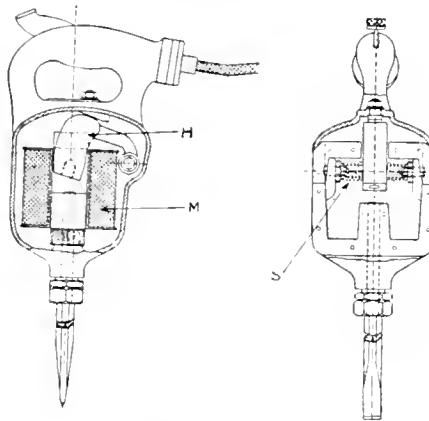

FIG. 1. ELECTROMAGNETIC HAMMER.
Electric drive has increased rapidly on all kinds of machine tools and is working into many new fields. One of the latest applications is in connection with small riveting hammers which are generally operated by compressed air. It is perfectly feasible to get the hammer blow by means of the electromagnet, but the difficulty has been to prevent sparking when the current is broken to allow the hammer to return to its first position ready for the next blow. L. Schueler, in the *Elek. Zeit* for May, 1914, describes a method which he has used very successfully. The design is shown by Fig. 1. Only the hammer blow is produced by the electric current, as the armature H of the electromagnet (M) is carried back by a spring (S).